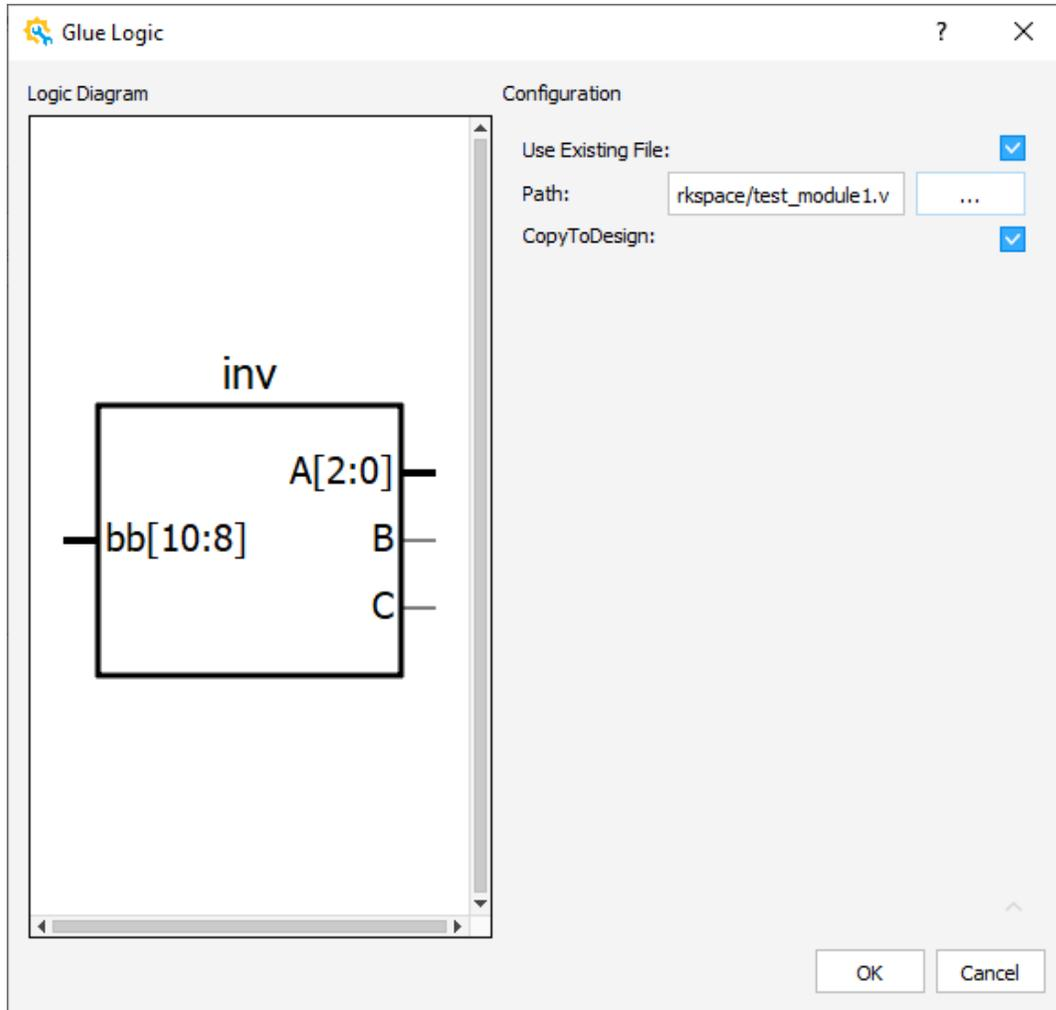

Figure 2.35. Existing RTL Module Configuration
- Or, you can use an existing RTL module by checking the **Use Existing File** checkbox. After checking the Use Existing File checkbox (Figure 2.35), browse to find the existing RTL module file path from the **Path** field. If you use an existing file, RTL references that file from the source. If you do not use an existing file, RTL creates a new file called `<module name>.v`. If **CopyToDesign** is enabled, a copy of the original source is created in the Propel project under `<project>/lib/gluelogics/`, if not enabled, it is referenced from its current location.